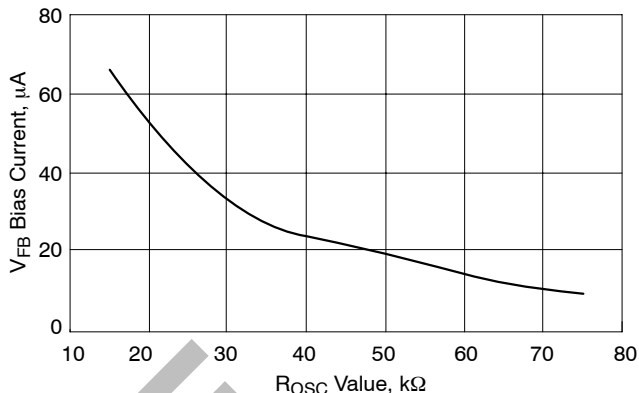

Figure 4. V_{FB} Bias Current vs. ROSC Value
2. The V_{FB} Bias Current changes with the value of R_{OSC} per Figure 4.
To set the no-load positioning, a resistor is placed between the output voltage and V_{FB} pin. The V_{FB} bias current will develop a voltage across the resistor to decrease the output voltage. The V_{FB} bias current is dependent on the value of R_{OSC} . See Figure 4 on the datasheet.